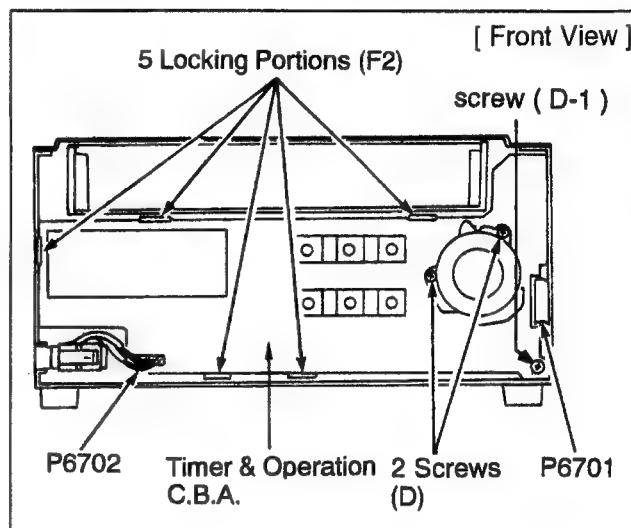

Figure D5
2. Unscrew the 2 screws (D) and a screw (D-1) on the Timer and Operation C.B.A and unlock 5 locking portions (F2).
3. Carefully remove the Timer and Operation C.B.A. (Figure D5.)